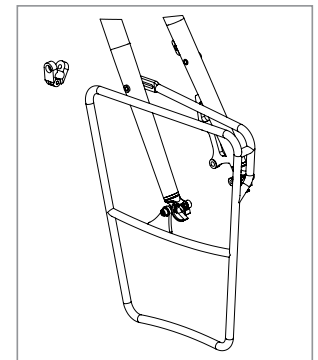

Figure 2
2. Install the rack clamp assembly around the top pannier bar and align with mid-blade fork mount. This will also bring the slotted arm around the fork blade, so you may have to gently spread the stays to fit around the fork blade. The counter-sunk hole of the rack clamp should be facing out away from the bike (fig 2).